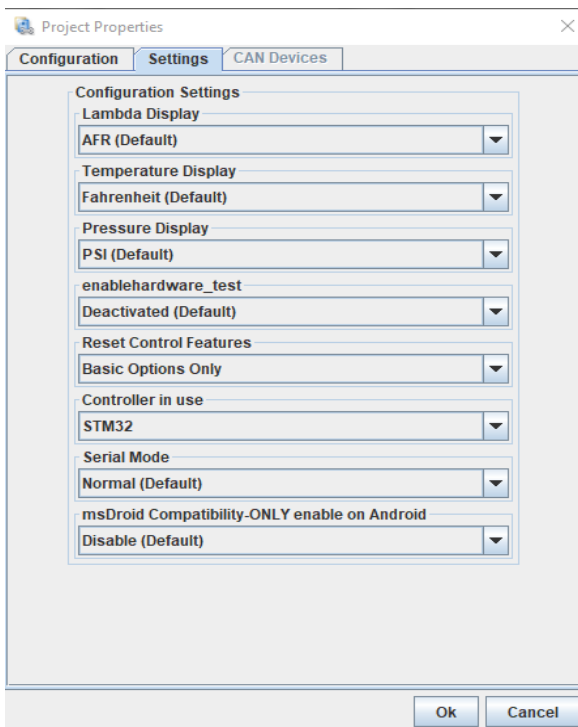

FIGURE 1
- FIGURE 1 It is critical to select "STM32" under "Controller in use" . For serial Mode activate "NEW_COMMS." and for new firmware you can put "compatibility mode" . Choose the appropriate units for PSI/AFR and Fahrenheit or Celsius. Click "Next," then "Finish," and select your dashboard. When all sensors and the ECU are correctly connected and powered on, you should observe live data such as temperature and TPS. If any discrepancies are noted, review your preceding steps, validate battery/ground connections, ensure software installation is complete, and confirm that the driver installation is error-free.